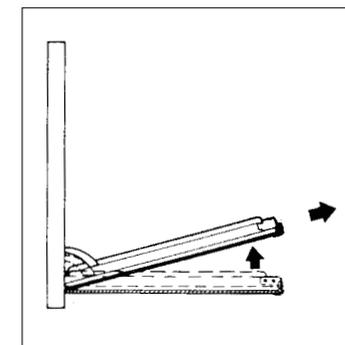

FIG 2
2. Lift the door towards the outside (FIG 2). Two movements are required, up and towards yourself, gripping the door near each hinge.
4. Unclip the two clips (B) which hold the two hinges - **THIS IS IMPORTANT!** The door is now in place.